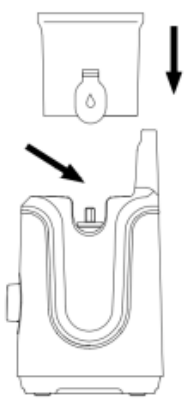

Fig1
- Place the hopper onto the power base, aligning the spouts and axle correctly. (Fig 1)